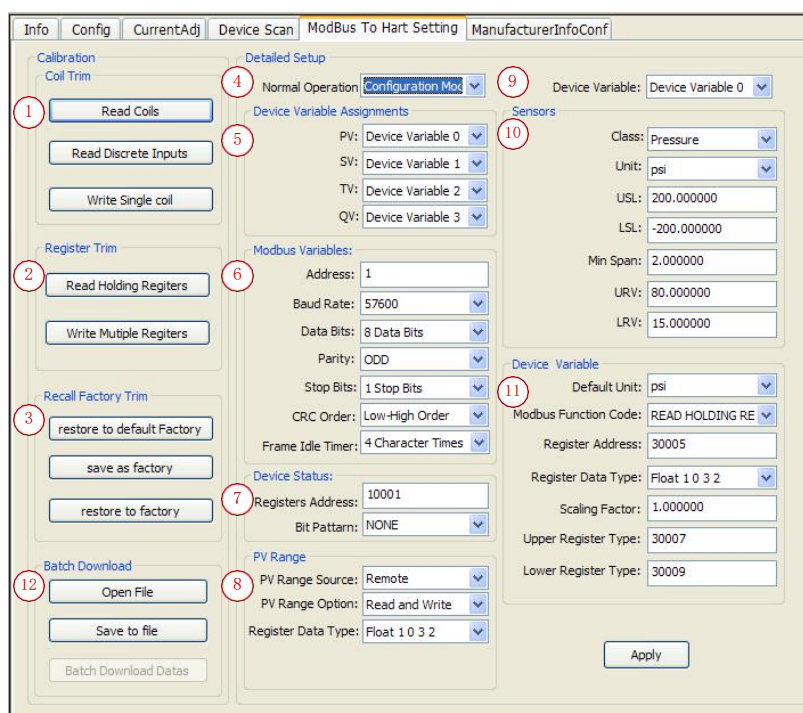

Figure 6 Gateway Configuration
When G0310 MODBUS to HART gateway is online on HartMPT, mouse left-click online devices, then tabcontrol will show related devices. Click “Modbus to HART Setting”, and for the first time, it will take about 1 min to read device information and then it will show gateway configuration function, as shown on figure 6. .
1. Find “detailed setup”->“normal operation”, as shown on figure 6, part 4. There are two operation modes, one is “configuration mode”, and the other is “normal operation”.
1. Choose drop-down box of PV in “Device Variable Assignments”, as shown in Figure 6 part 5;
1. Find “ModbusVariables”->“Address”, as shown in figure6, part 6, address range is 1~255;
1. Choose “ModbusVariables”->“Baud Rate”, as shown in figure 6, part6, choose baud rate value and click Set and Send button.it supports: 1200, 2400, 4800, 9600, 19200, 35700, 38400, 57600.
1. Choose drop-down box of “ModbusVariables”->“Data Bits”, as shown in figure 6, part6, choose supported data bits, 7 or 8.
1. Choose drop-down box of “ModbusVariables”->“Parity”, as shown in figure 6, part6, mode supported : Odd parity check, even parity check and no check;
1. Choose drop-down box of “ModbusVariables”->“Stop bits”, as shown in figure 6, part6, stop bits supported : 1 stop bits and 2 stop bits.
1. Choose drop-down box of “ModbusVariables”->“CRC order”, as shown in figure 6, part6, stop bits supported : Low-high and High-low.
1. Choose drop-down box of "ModbusVariables"->"4.3.7 Frame Idle Timer", as shown in figure 6, part6, interval time range is: 4~10.
1. Find "device status"->"register address" input box, as shown in Figure 6, part7, address range is 1~65536.
1. Choose drop-down box of "device status"->"Bit Pattern", as shown in Figure 6, part7. Bit range is 0~16. 0 means no device state feedback.
1. Choose drop-down box of "PV range"->"PV range source", as shown in figure 6, part8, including local and long-distance.
1. Choose drop-down box of "PV range"->"PV range option", as shown in figure 6, part8, including read only and read-write.
1. Choose drop-down box of "PV range"->"Register Data Type", as shown in figure 6, part8, including read only and read-write.
User can set related parameters of device variables, including sensor and corresponding device variables parameter. In default there are 6, namely “device variables: 0”~“device variables: 5”. It is device variables: 0 in default under system initialization, as shown in figure 6, part 9. When device variables change in choice box, system will refresh corresponding “sensor” and “device variable” parameter. After the modification, system will reminder to save data or not if user switch to other device variables without saving. Click “yes” to save it and click “no” means the contrary.
1. Choose drop-down box of “Sensor”, as shown in figure 6, part 10.
1. Choose drop-down box of “Device Variable”, as shown in figure 6, part 11.